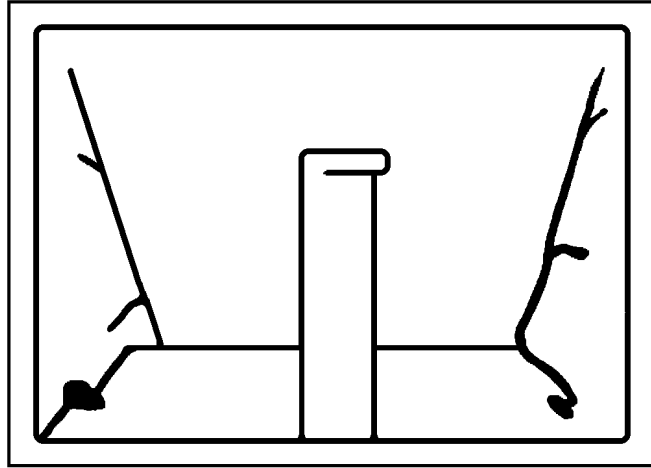

Figure 3-14
- a. Apply the tape over the fourth corner of the outer wrap to seal the package. (See Figure 3-14.)
- b. Leave a "courtesy" tab on the tape by folding 1/4 to 1/2 inch of the tape back on itself at one end. (See Figure 3-14.)